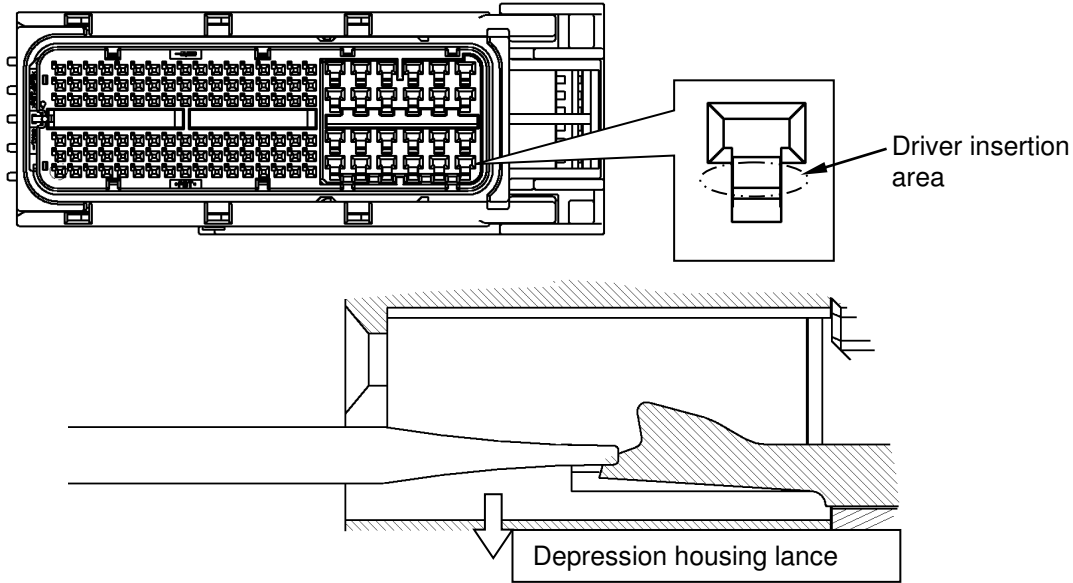

Fig.48
(3) For 2.3 II Terminal
- ① Insert the 1.2~1.6mm blade precision screwdriver into the proper hole.
- ② While referring to Fig.48, canceling the housing lance to pull the electric wire, please pull out the terminal.